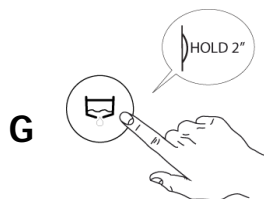

Fig.40
- 3- Hold button "G" drain water until it starts drain process. (Fig.40)